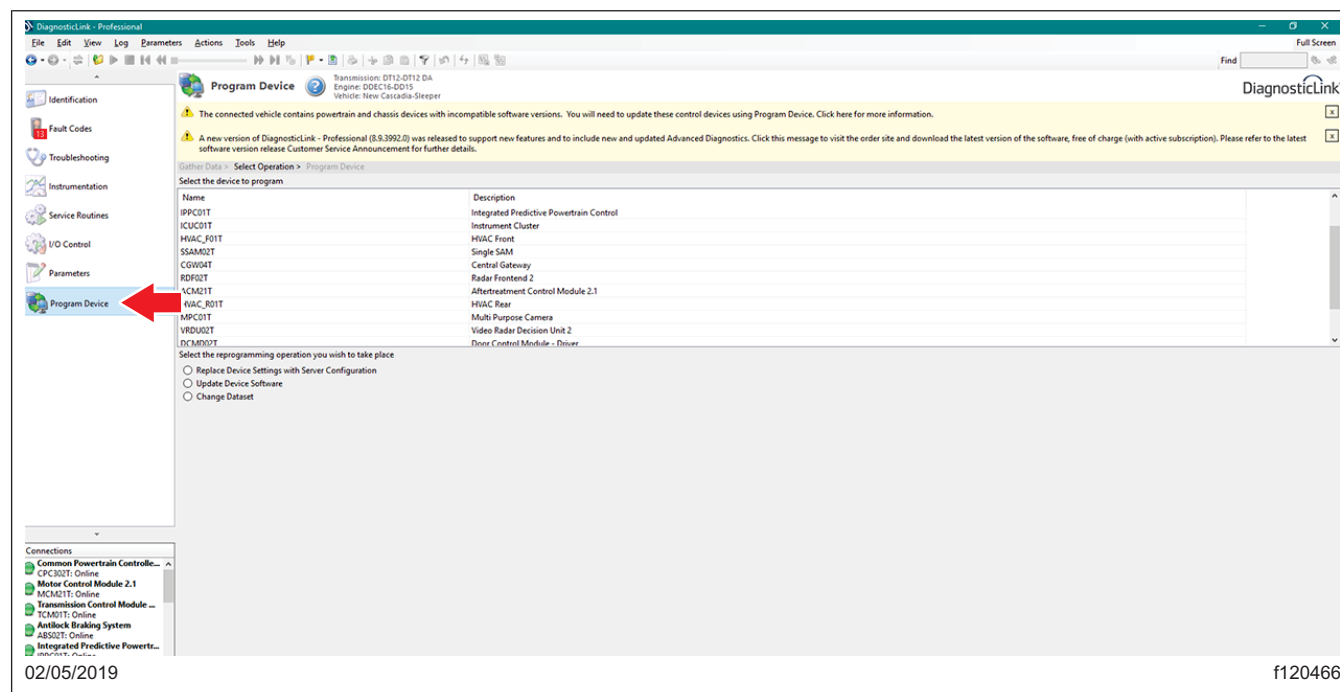

Fig. 2, DiagnosticLink Program Device Panel
4. Go to "Program Device" and click "connect to server." See Fig. 2